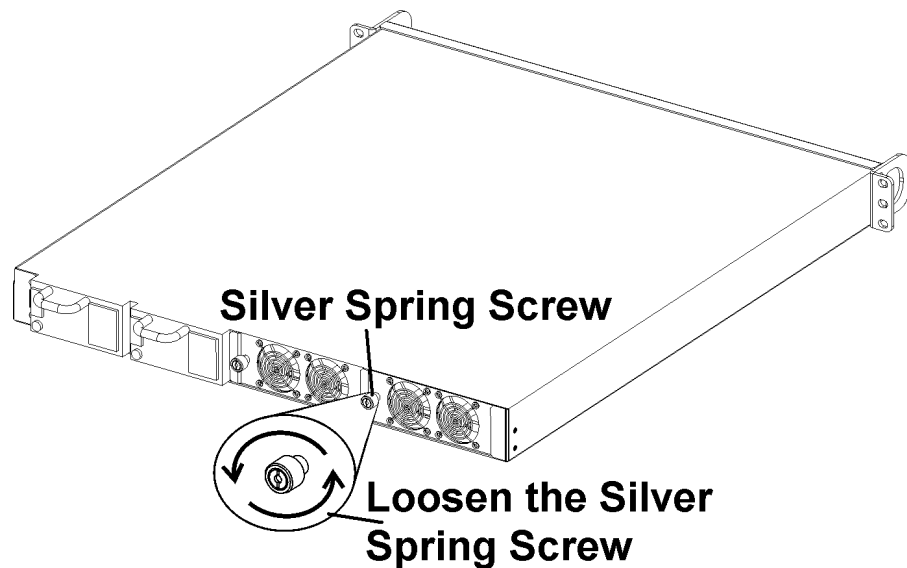

**Figure 5-4:** Insert the new PSU and re-attach the crossbar at the back of the PSUs.
**Step 4. Install the new PSU** - Once the faulty PSU has been removed, insert the new PSU into the controller head. Push the PSU into the slot until it clicks into place. To firmly secure the PSUs into place, reinsert the crossbar through the handles and reattach the crossbar to the internal bracket using the screws that were previously removed. See *Figure 5-4*.